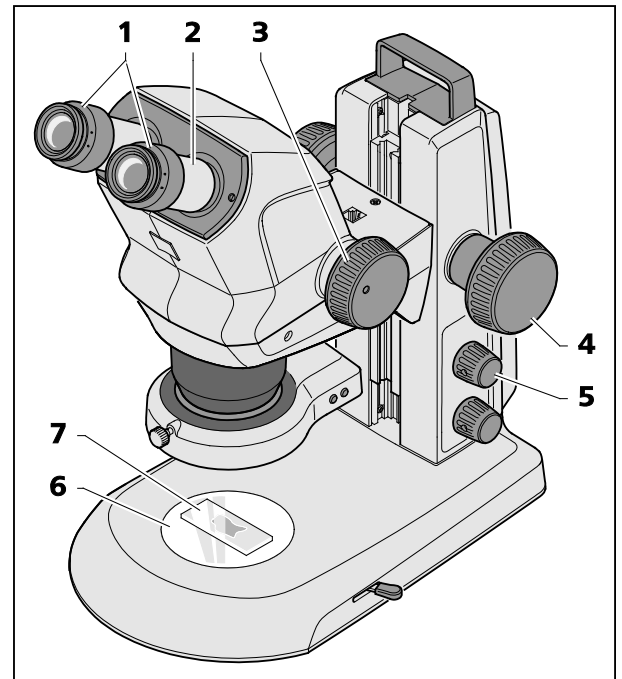

Fig. 14 Adjusting the stereo microscope
1. Place specimen (Fig. 14/7) centrally on the glass or plastic plate (Fig. 14/6) and illuminate it (Fig. 14/5).
2. Set diopter compensation on the adjustable eyepieces (Fig. 14/1) to "0".
3. Set individual eye distance by shifting the eyepiece tube laterally (Fig. 14/2), until only **one** complete light circle (specimen field) is visible when looking into the eyepieces with both eyes.
4. Initially, set the zoom (Fig. 14/3) to the smallest magnification.
5. Focus on a small distinct detail in the center of the specimen (Fig. 14/4).
6. Adjust maximum zoom value (Fig. 14/3). Magnification will probably make the distinct detail appear blurred and no longer in the image center.
7. Sharpen the specimen by focusing, then shift the specimen to re-search for the detail and focus "sharply" again (Fig. 14/4).
8. Afterwards, reset to the lowest zoom value and correct any image blurring for each eye separately by diopter compensation **on the adjustable eyepieces** (not on the focusing knob, Fig. 14/4) (compensation of visual defect).
- By pressing the knob ((Fig. 14/5), the reflected-light illumination is switched ON or OFF (spot illuminator or double spot illuminator).